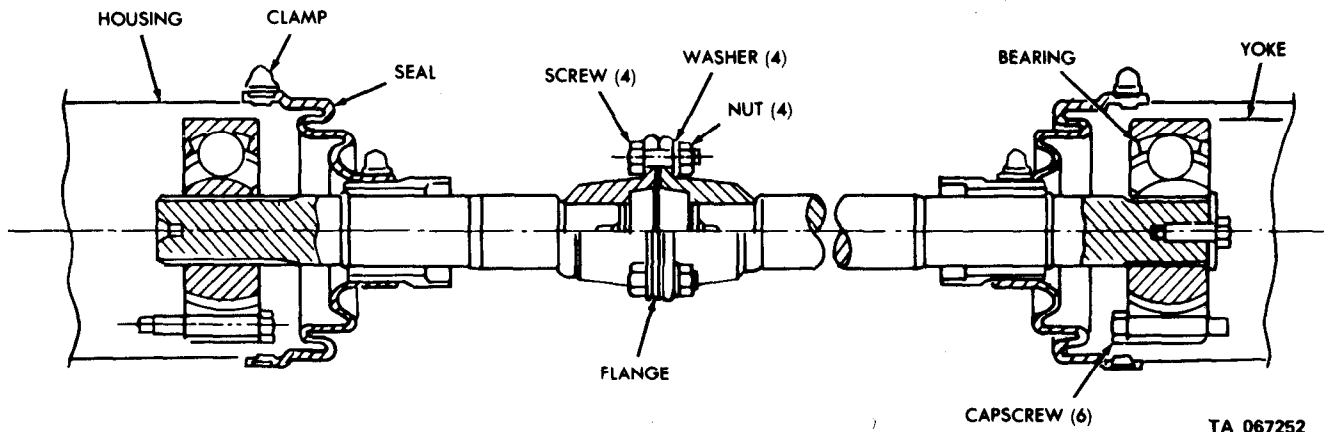

Figure 2-261.1. Two-section shaft replacement.
(6) Connect the power takeoff-to-power divider propeller shaft from the drive shaft yoke at the front of the power divider.
*d. Two Section Shaft Removal (fig. 2-261.1).*
(1) Remove four bolts from flanged disconnect of propeller shaft. Allow each half of shaft to swing down for removal clearance.
(2) Remove universal bearing dust seal from housing.
(3) Remove six screws securing universal bearing to flange at each end of the propeller shaft.
*e. Two Section Shaft Installation (fig. 2-261.1).*
(1) Position propeller shaft halves into seal housings.
(2) Install six screws securing universal bearing to flange at each end of the propeller shaft.
(3) Position universal bearing dust seal on seal housing and secure with clamps.
(4) Join propeller shaft halves at flanged disconnect and tighten four bolts.